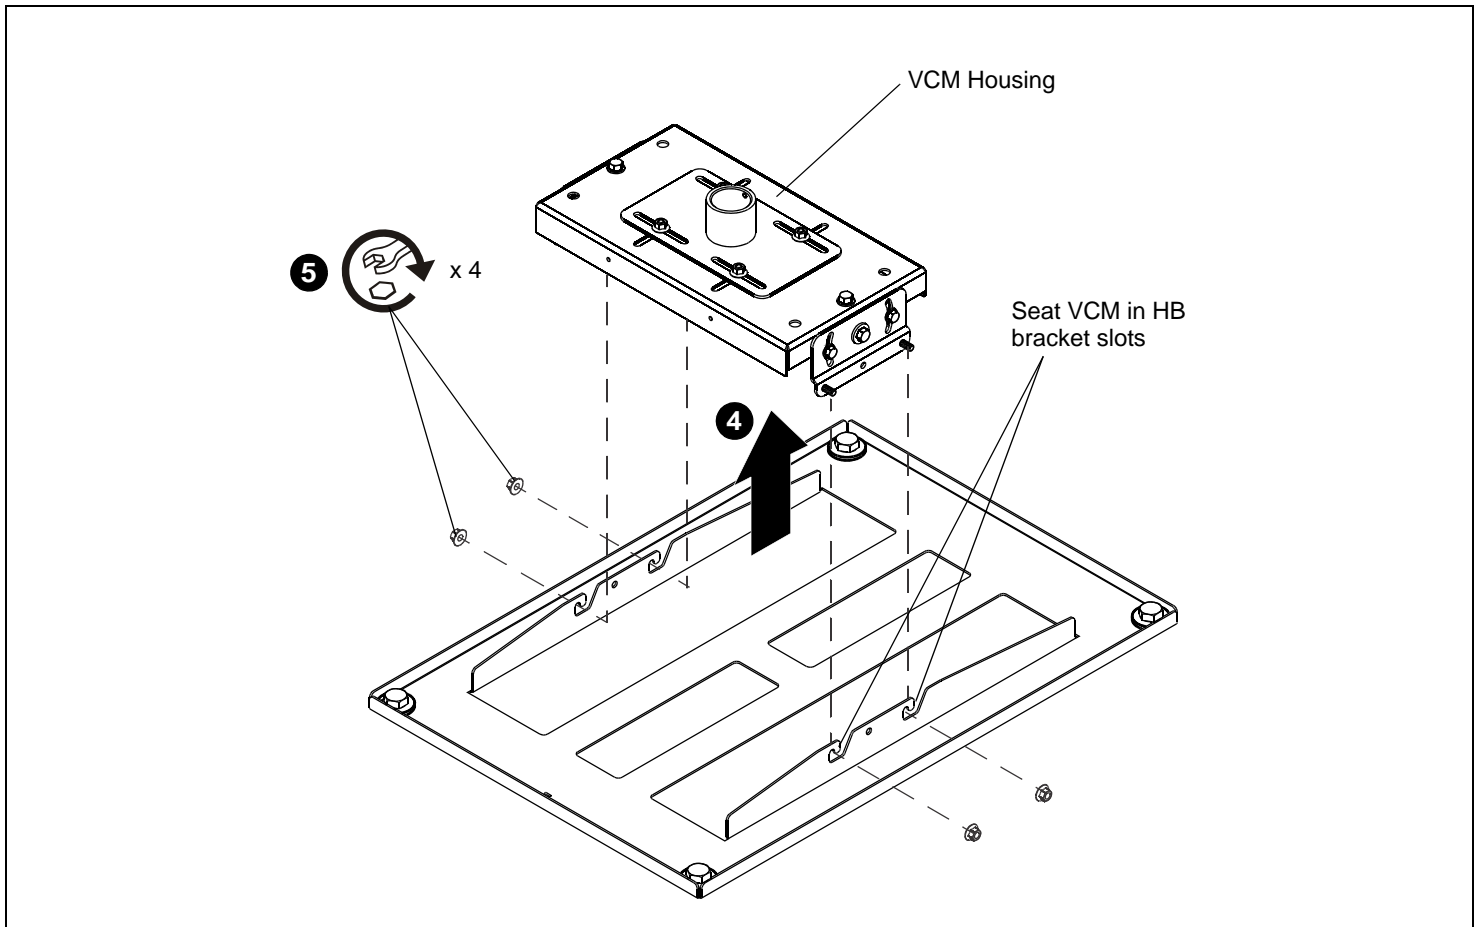

Figure 2
4. With help of assistants, lift the HB bracket with projector and install it to the four studs extending from the VCM housing. Ensure that the VCM housing is seated in slots on HB bracket. (See Figure 2)
5. Tighten the four 5/16" flange nuts. (See Figure 2)